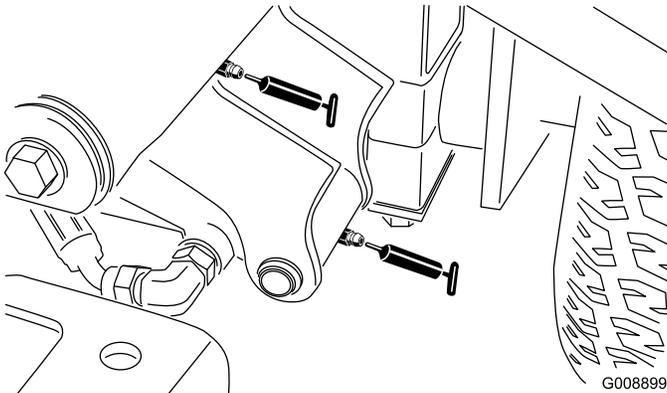

Figure 35
- Left front lift arm pivot and lift cylinder (2) (Figure 35)